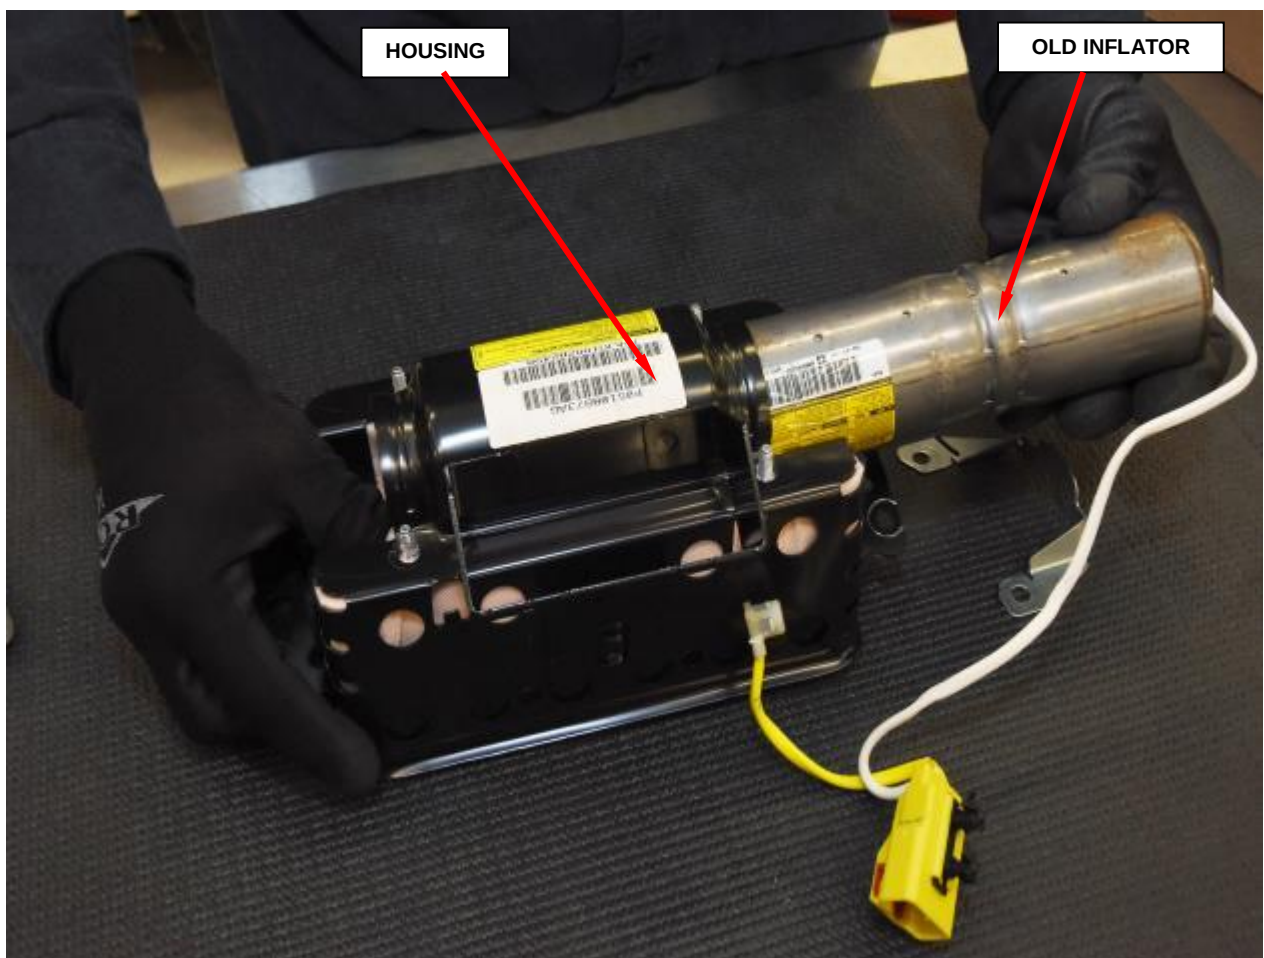

Figure 97 – Passenger Airbag Inflator Removal
- g. Slide the inflator out of the housing (Figure 97).